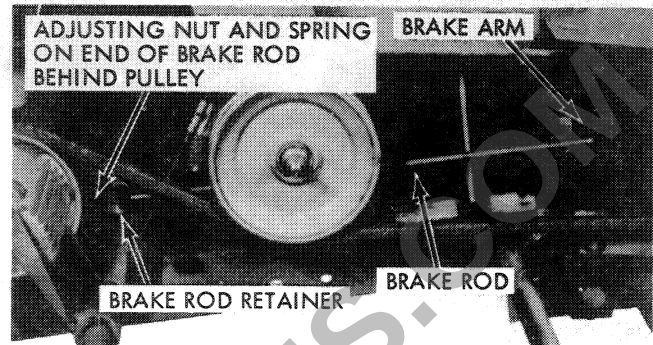

Figure 23.
2. Adjust the brake rod as follows: Turn the adjusting nut on the end of the brake rod retainer (See Fig. 23) clockwise to increase, and counter-clockwise to decrease dimension "B". The number of turns in either direction is determined by the amount of adjustment required to correct dimension "B". This adjustment is made on the tractor without removing the brake rod.